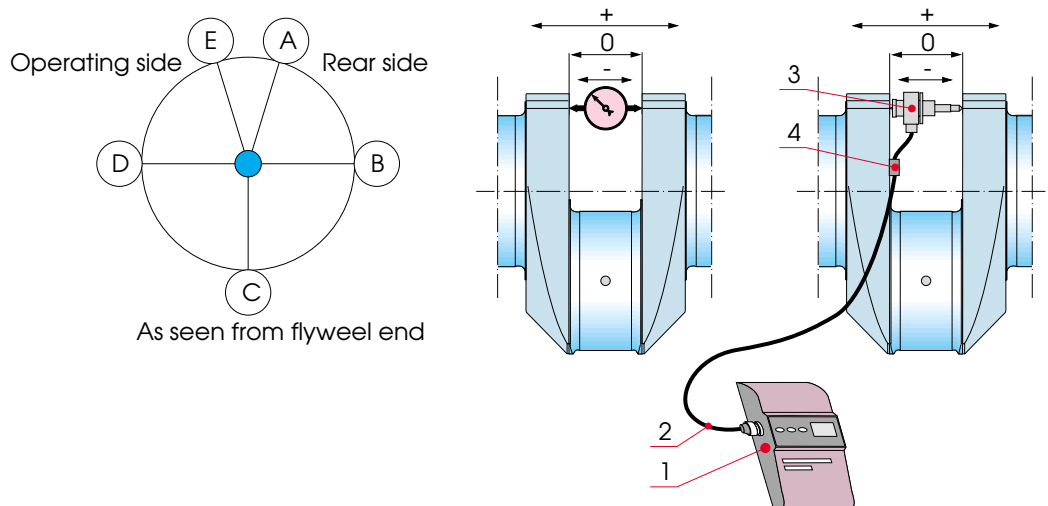

Fig 11-2
- 4** Combine extensions with the transducer (3) to the required length.
- 5** Connect cable (2) on the measuring unit (1).
- 8** Rotate crank of the first cylinder near BDC (bottom dead centre) and fit the transducer to the centre marks between two crank webs. The distance between the transducer and the connecting rod should be as small as possible. Fix the cable on the crank web by using suitable bandage or magnetic holder (4), see Fig 11-2.
- 10** Rotate the crank and read deflections in the marked positions according to Fig 11-2. Starting point for clockwise rotating engine is measuring point "A" and counter-clockwise rotating engine measuring point "E". B is rear side, C is TDC (top dead centre), D is operating side, A and E are BDC (bottom dead centre). Record readings in the Measuring Record: "Crankshaft alignment".